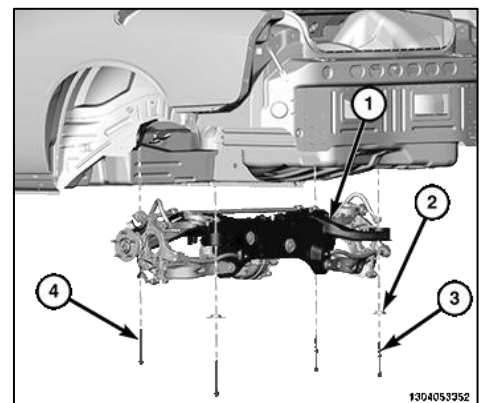

Figure 15
32. Remove the four bolts (3 and 4) bolts and retainer plates. <Figure 15>